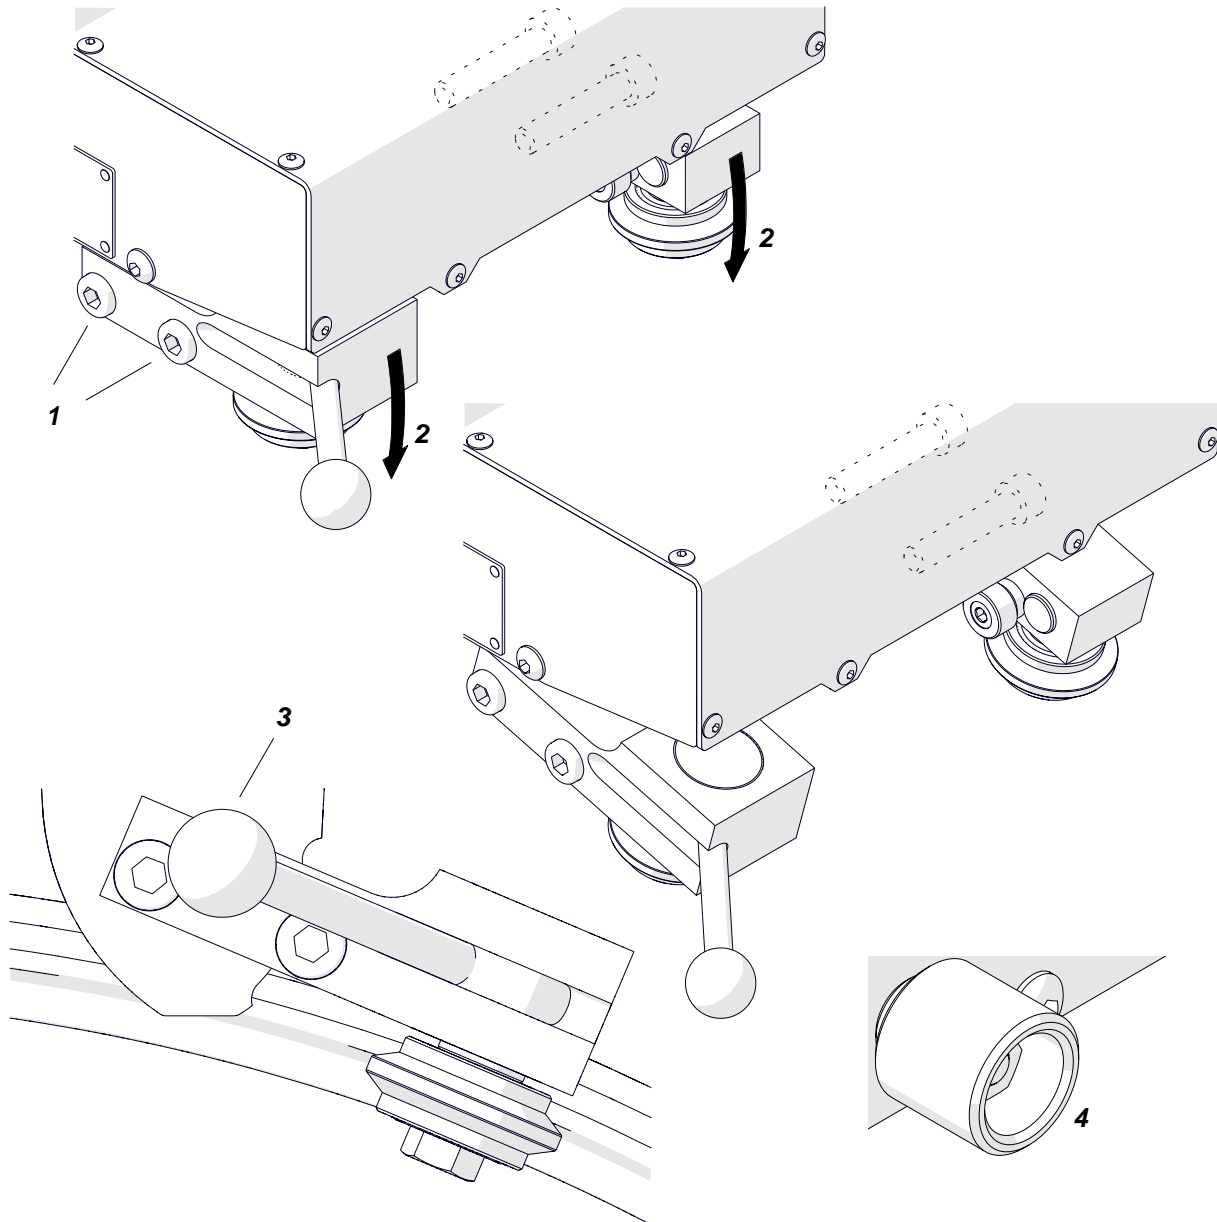

Fig. 8. Rotating the rollers for a curved track
Use the 6 mm hex wrench to loosen four screws (1, Fig. 8), and then put the carriage on the track. Rotate two roller brackets (2) to put the rollers into the grooves, and then set the levers to ON (3). Next, move the carriage back and forth to make sure that it moves smoothly. Then, tighten the screws (1) and use the knob (4) to engage the gear with the rack as described in “Positioning on a straight track”.